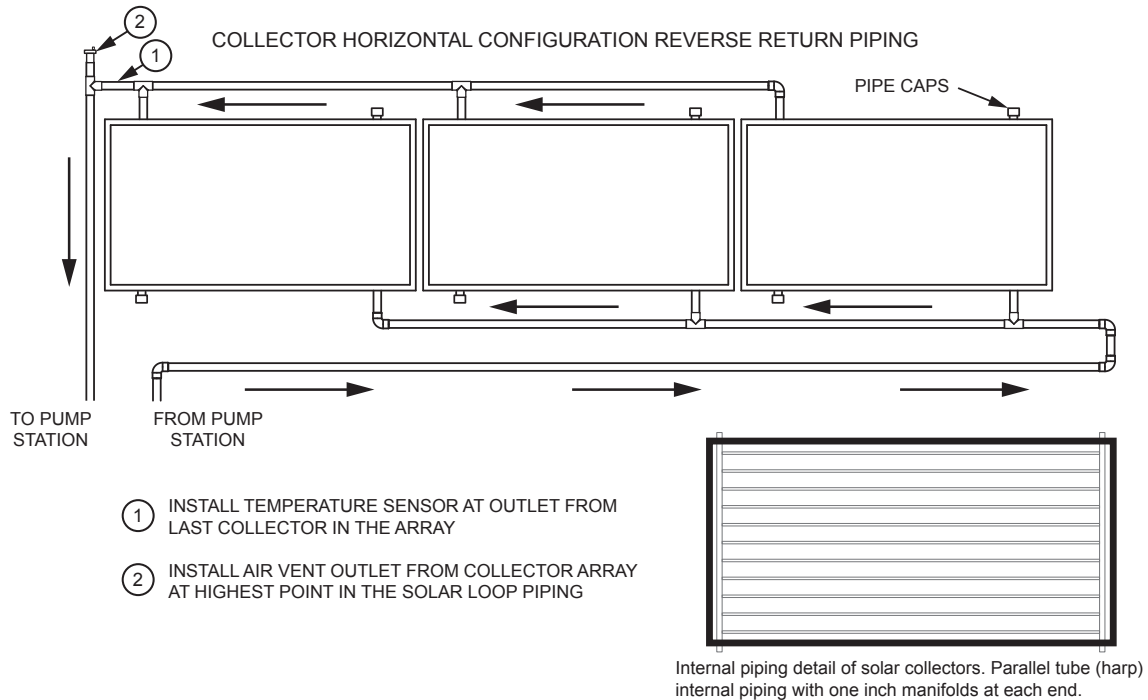
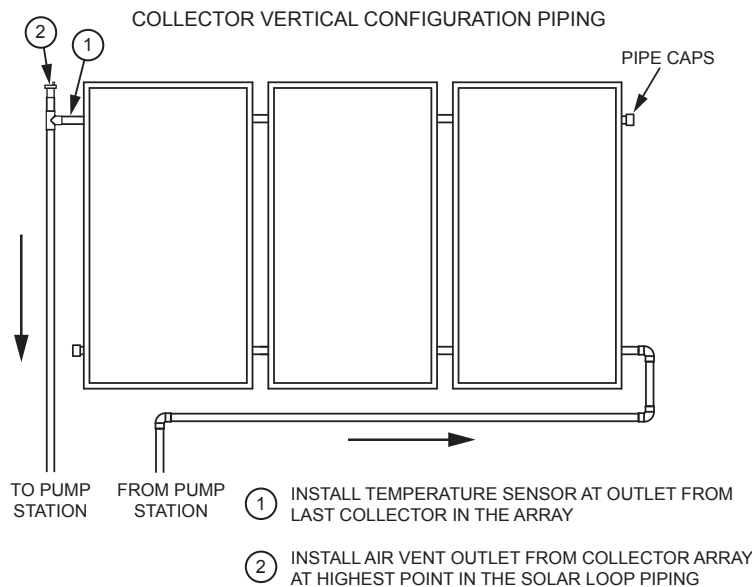
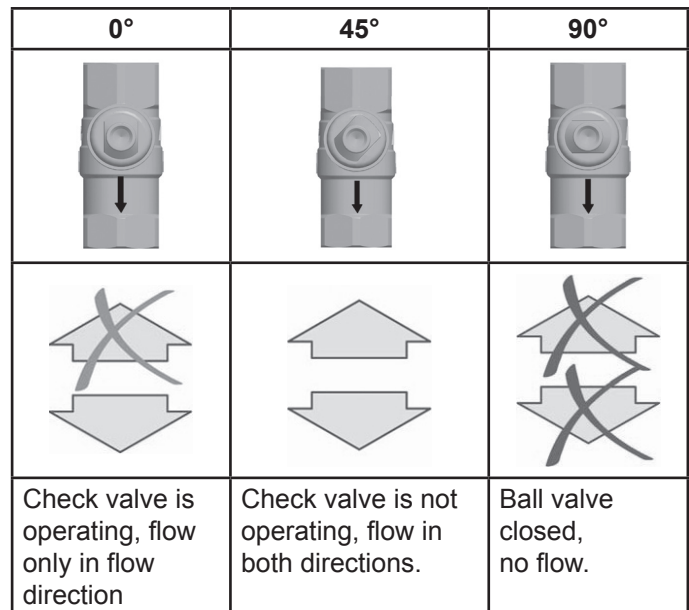

Figure 15.
Figure 16.
Figure 26.
Care should be taken in the spacing of collectors as attachment of piping is easiest with properly aligned collectors. The connection between the collector panels is made with copper unions or couplings. To aid in installation the collector array layout should be planned on the ground and the unions or couplings soldered to the adjoining headers prior to lifting the collectors to the roof. Similarly the top and bottom outside header that will not be used for the inlet or outlet (should be on opposite sides) should be capped with 1" copper caps while on the ground. Refer to Figure 15 and Figure 16 for typical horizontal and vertical collector piping layouts. These typical piping layouts are designed to maintain the proper fluid flow rate through each collector.
Refer to Figure 16 and Figure 26.
For filling, venting and flushing of the installation the check valves must be turned to the correct position. To set the proper position for the check valves remove the top cover (D) take off the temperature gauges (C, E), and turn the ball valves into the proper position using a wrench. See Figure 26. In the 45° position the balls in the ball valves push the check valves open.